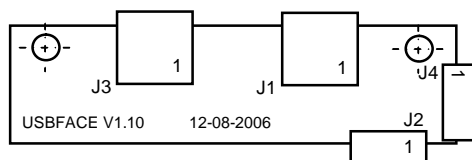

Figure A.4 – Arrangement of the Elements of the NC210-27-1 Card
11.1.4.1 The arrangement of connectors of the **USB** connectors card NC210-27-1 is shown in Figure A.4.